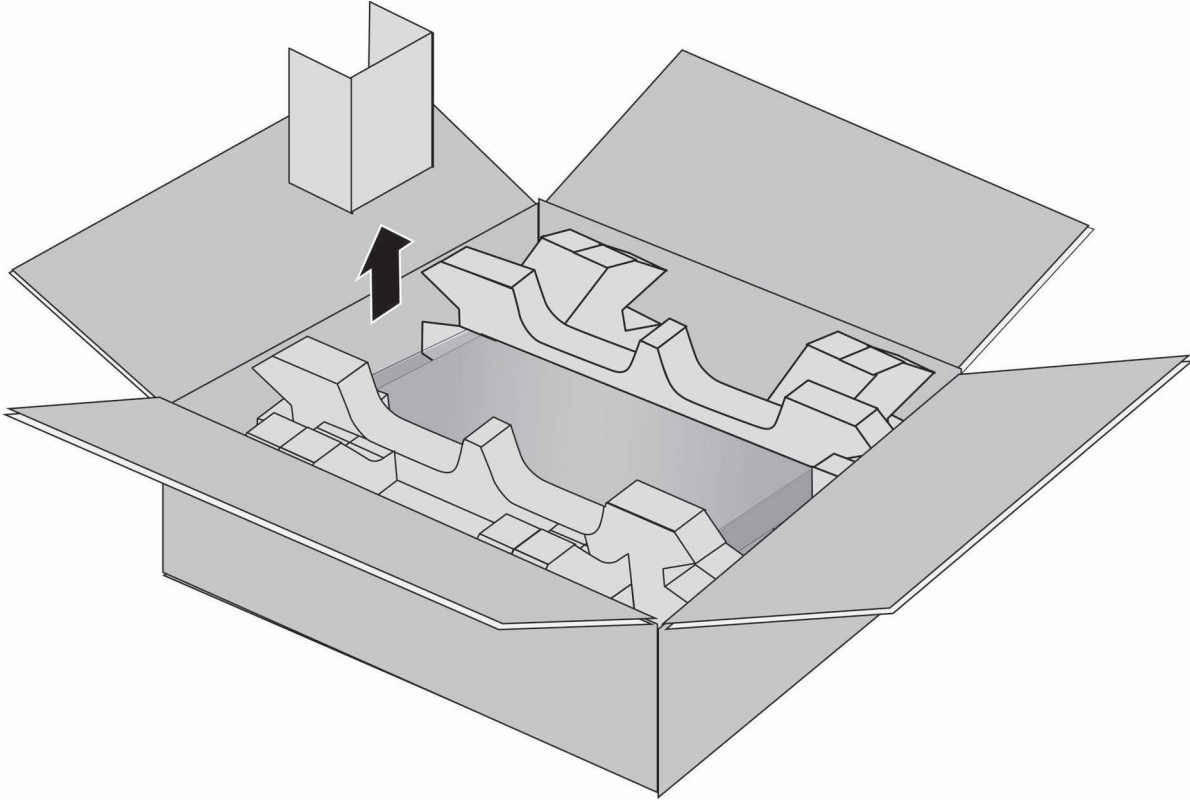

Figure 31. Removing the Shipping Box Partition
2. Remove the accessory box partition. Refer to Figure 31 on page 90.